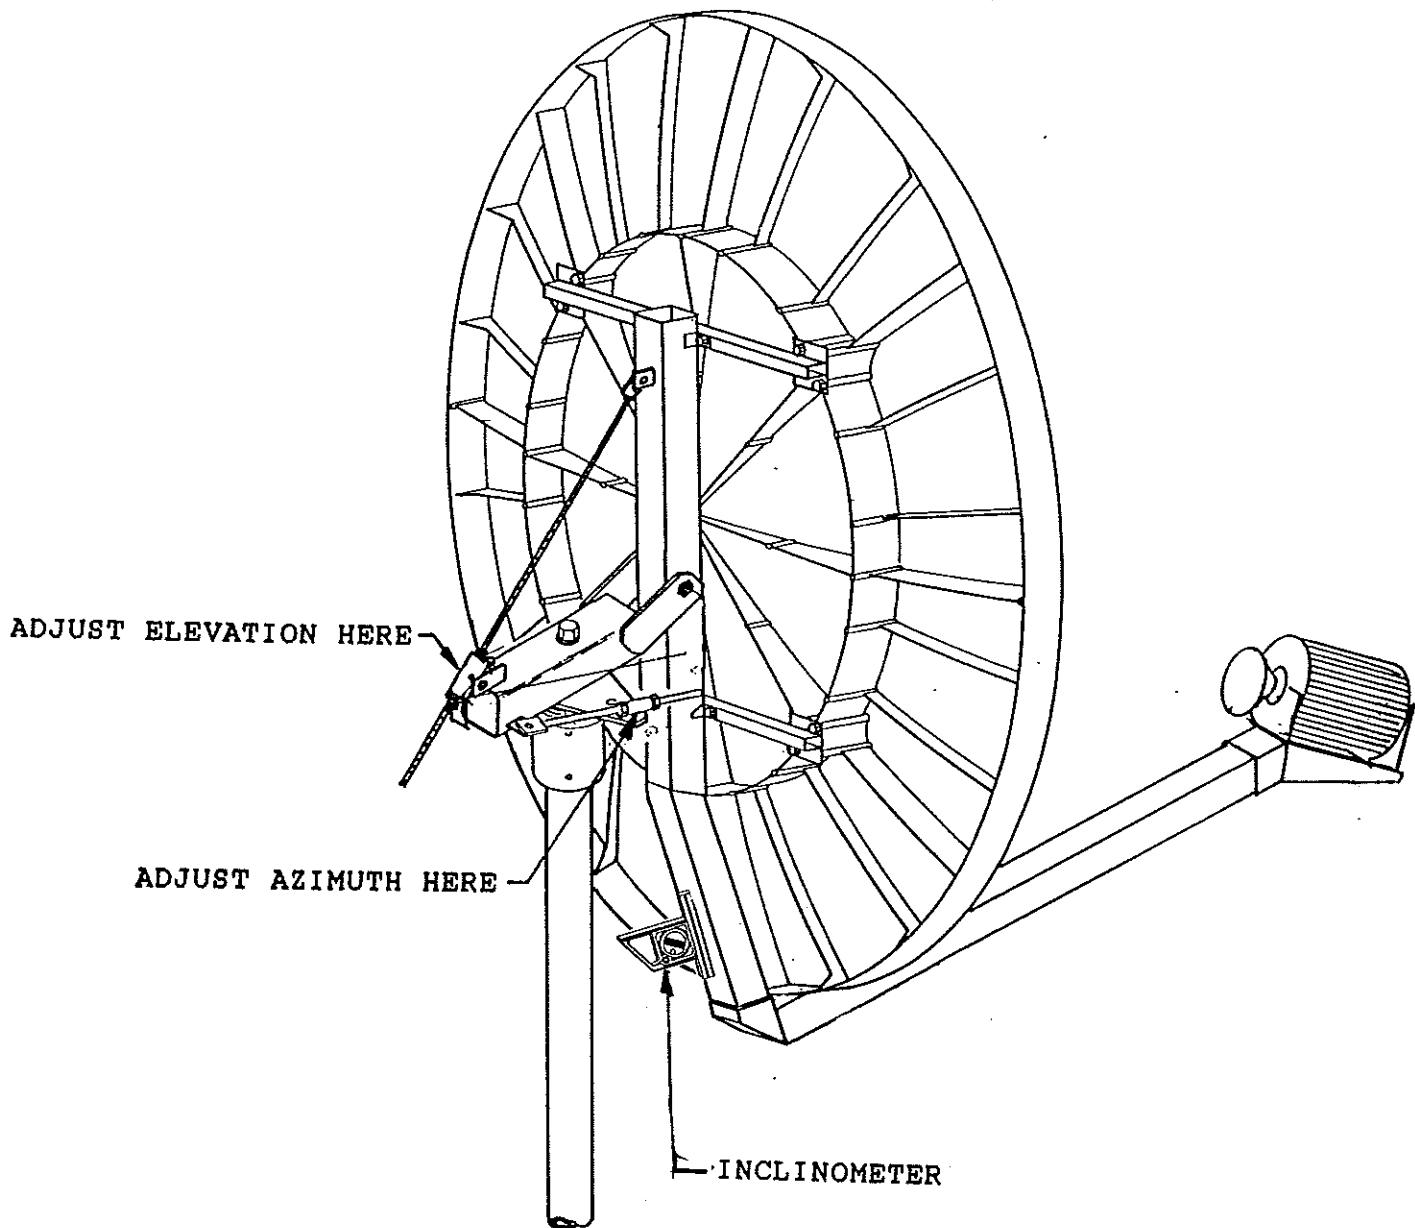

FIGURE 5.1-1
Step 1: Attach an inclinometer to the angled part of the reflector support tube as shown in figure 5.1-1.